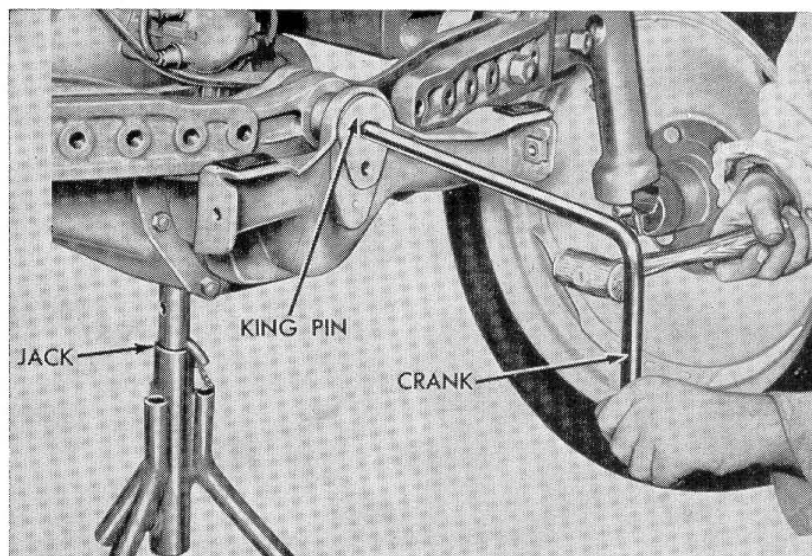

Fig. FO4—Method of removing axle center pin.
3. Remove front hood bolts at bottom and block up under hood. Hold up front end of engine with jack under oil pan and unbolt axle support. Remove two bottom radiator bolts and raise engine and radiator high enough to permit removal of axle center pin. Remove pin, using hand crank as shown in Fig. FO4 and drop crank support away from axle. Renew pin bushing, installing split type bushing with open side up and reinstall front axle parts in reverse order of removal.